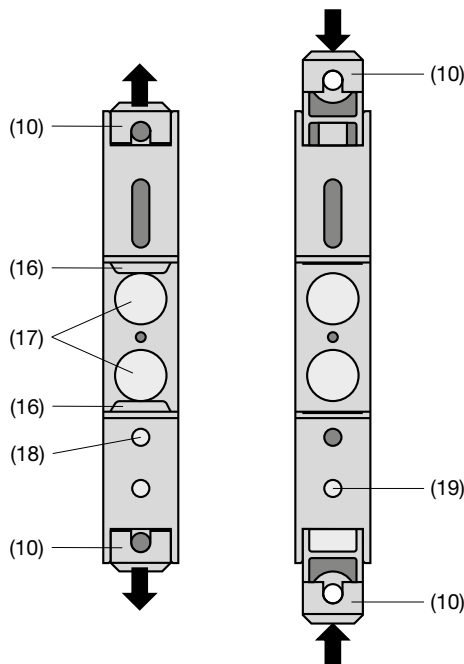

Fig. 8. Rear of device.
The while pressing the latch (18) in the base of the device (Fig. 8, left), pull out the transmitter securing brackets (10).
To return the brackets to their original positions, the latch (19) in the base of the device has to be depressed before applying pressure to the securing brackets (10) (see Fig. 8, right).